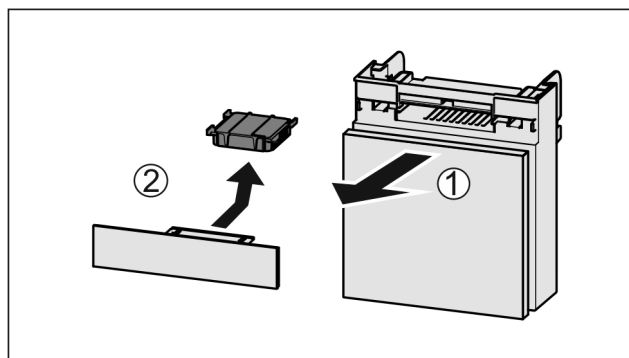

Fig. 143
- Pull out the compartment Fig. 143 (1).
- Remove the carbon filter Fig. 143 (2).